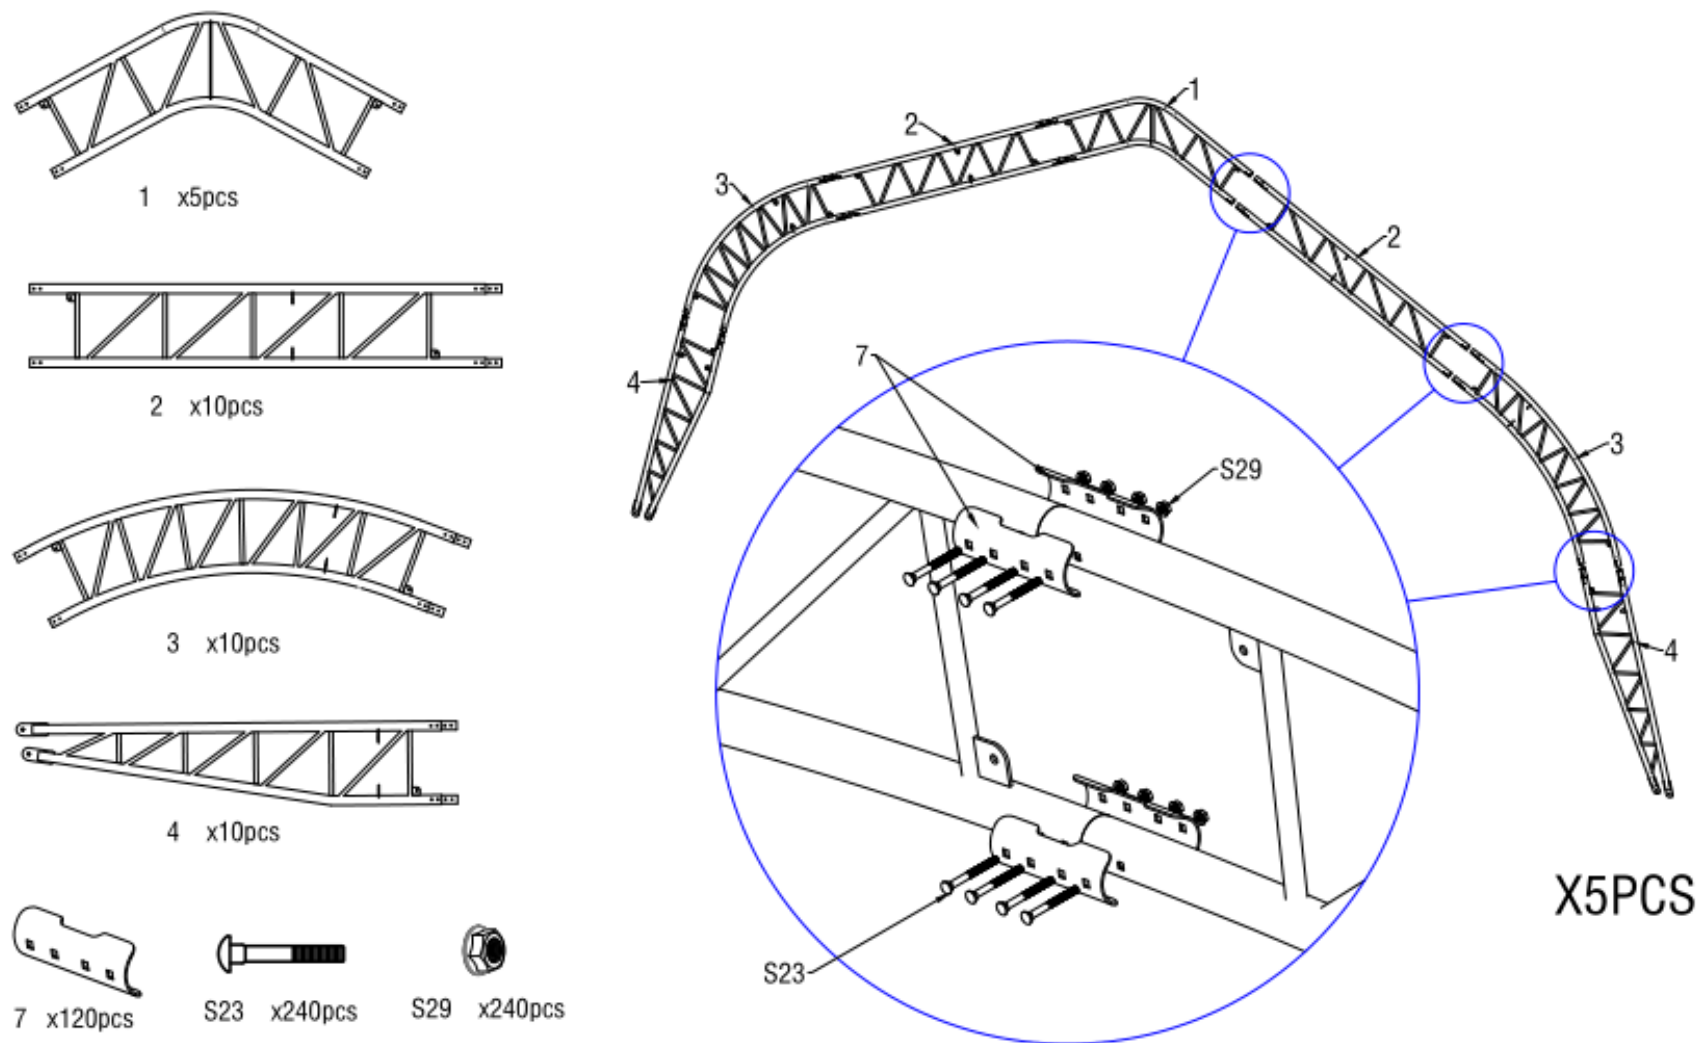

Figure 4
2. As Figure 4 shown to find one Top roof tube (No.1), two Roof upper curving tube (No. 2), two Roof middle curving tube at shoulder (No. 3) ,two Lower curving tube (4) and assemble every group arch with Screw M8x80 (No.S23). **DO NOT install the screw on the top of the truss where the fabric will rest.**
**Note:** Top Roof tube,Roof curving tube and Lower curving tube (No.1A,2A,3A&4A) which are welded with steel plates for front and back doors are different from the middle arch.(Figure 4)